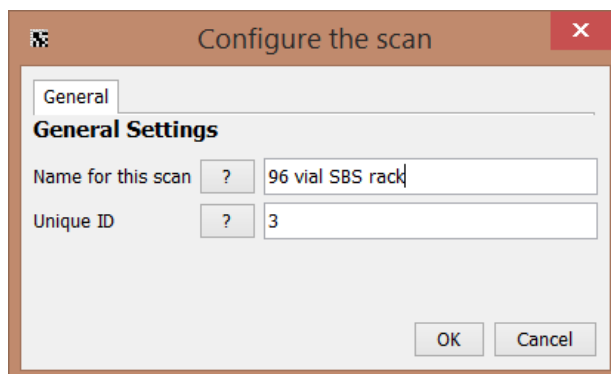

Figure 19: Configure the scan
2. A prompt appears to Configure the scan (Refer to Figure 19):